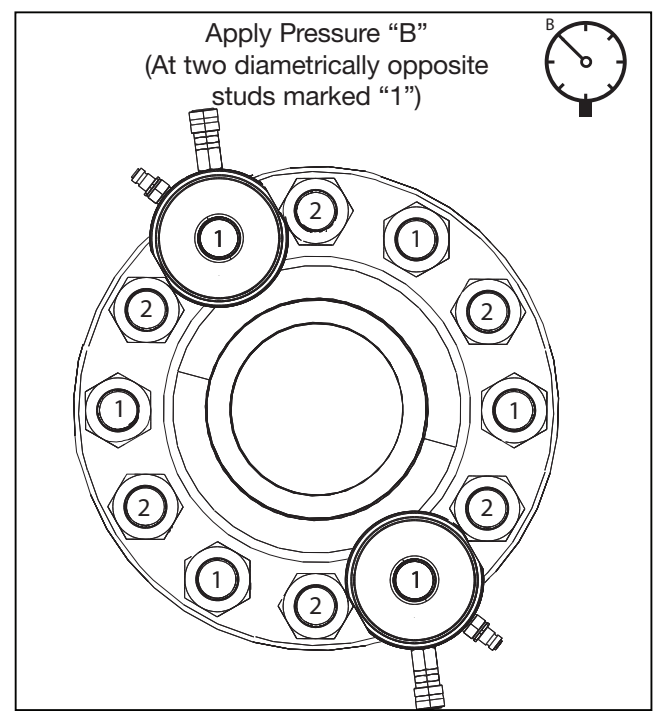

FIGURE 14, RECHECKING FIRST PASS TENSION
- a. Assemble tensioners on any two “first pass” bolts (labeled “1”) located diametrically opposite of each other. See Figure 14.
5. Verify that the oil pressure gauge indicates zero (0) psi/bar. If any pressure is indicated, release the hydraulic pressure SLOWLY by opening the pump pressure release (return to tank) valve.